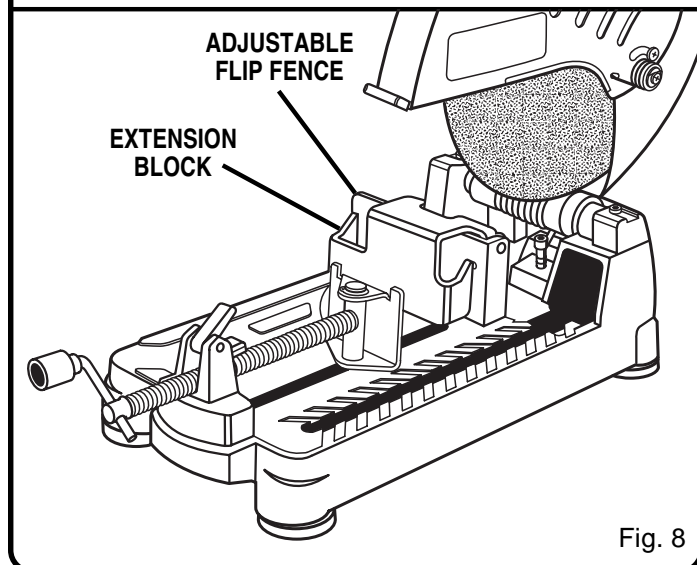

Fig. 8
- To increase the height of cut of your cut-off machine, flip the extension block down as shown in figure 8. This position is good for cutting tall and thick pieces of stock, such as square or tube stock.